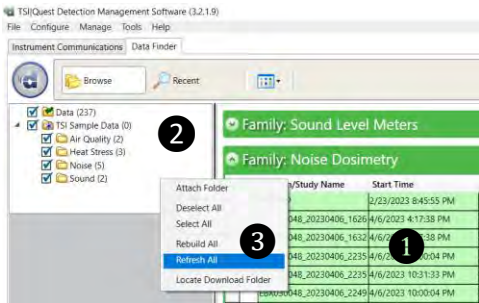
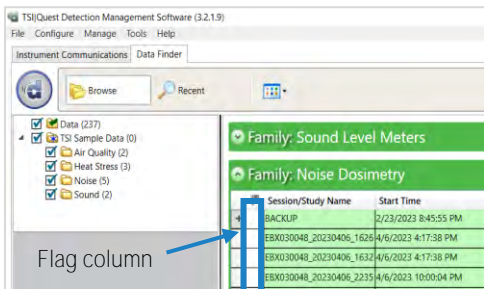

Figure 1-13: Data finder: Refresh data files
Figure 1-14: Data finder: Flagging
A flag in this column (see Figure 1-14) next to the session/study name indicates that the information for the record is out of date. To update, click Refresh All (see ❸ in Figure 1-13)